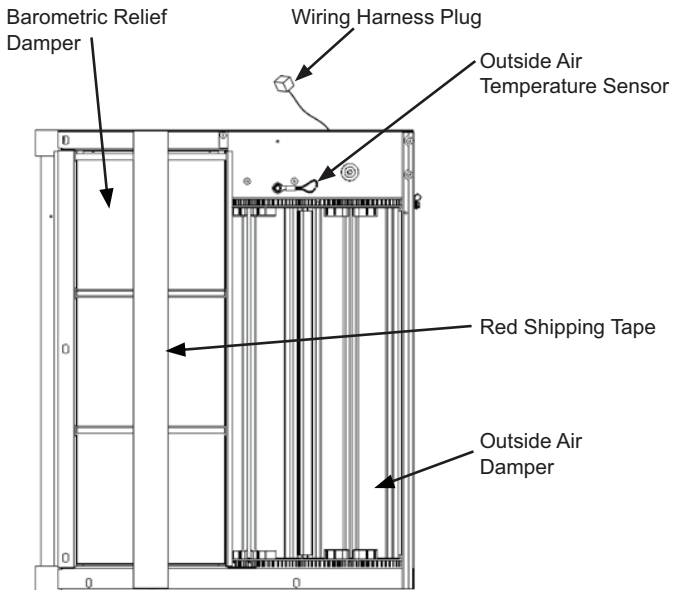

Fig. 1 — EconoMi\$er X Component Locations
For economizer component locations, see Fig. 1. For typical access panel locations, see Fig. 2.
16. If the EconoMiSer X will be operating with an enthalpy outside air sensor, remove the factory-installed HH79ZZ007 dry bulb sensor from the front face of the economizer (see Fig. 1), and install the accessory enthalpy sensor HH57AC081/1185124 in the same location. Holes are pre-punched. Connect the (2) wire gray harness with plug from the EconoMiSer X to the enthalpy sensor. See wiring diagram Fig. 25 and 30. Refer to the “Installing Optional HH57AC081/1185124 Outside Air Enthalpy Sensor” section for more details on enthalpy settings.
When using the HH57AC081/1185124 (Honeywell C7400S) enthalpy sensor for outside air changeover (see Fig. 31), the existing HH79ZZ007 dry bulb sensor must be removed. The enthalpy sensor will be mounted in the same location as the dry bulb sensor (refer to Fig. 1). When the enthalpy sensor's OA temperature, enthalpy and dew point are below the respective set points, the outside air can be used for free-cooling. When any of these is above the set point, free-cooling will not be available. Figure 32 shows the enthalpy boundaries in the W7220 controller. There are (5) enthalpy boundaries (set points ES1 through ES5), which are defined by dry bulb temperature, enthalpy, and dew point. ES3 is the default setting. Table 7 shows the High Limit Curves for each setting.